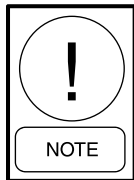

FIG. 4-25 – FULLY INSTALLED FILTER
6. The filter should now be securely installed into the frame (see Fig. 4-25).